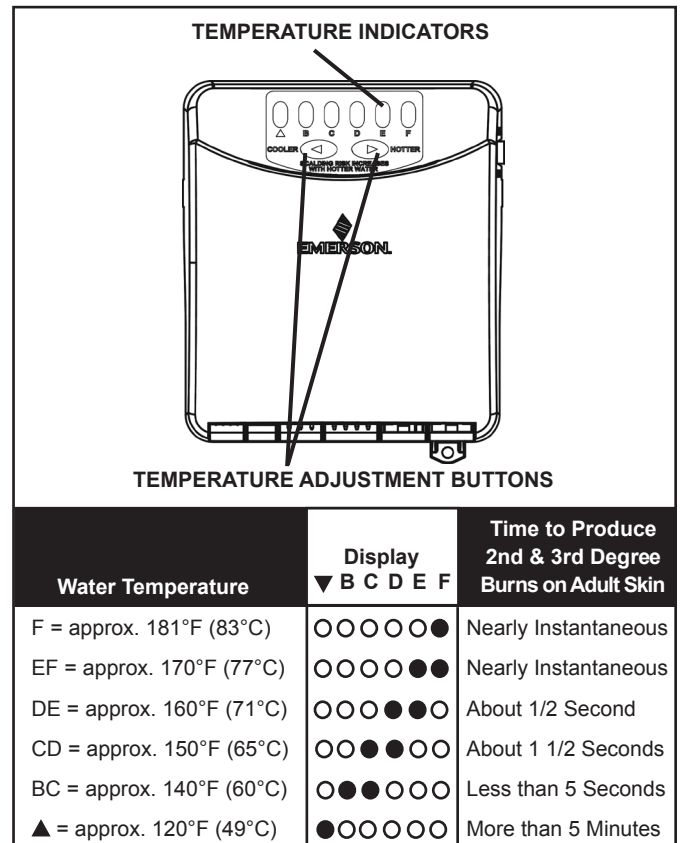

FIGURE 22.
**HOT WATER CAN SCALD:** Water heaters are intended to produce hot water. Water heated to a temperature which will satisfy space heating, clothes washing, dish washing, and other sanitizing needs can scald and permanently injure you upon contact. Some people are more likely to be permanently injured by hot water than others. These include the elderly, children, the infirm, or physically/mentally handicapped. If anyone using hot water from this heater fits into one of these groups or if there is a local code or state law requiring a certain temperature water at the hot water tap, then you must take special precautions. In addition to using the lowest possible temperature setting that satisfies your hot water needs, a means such as a mixing valve, shall be used at the hot water taps used by these people or at the water heater. Mixing valves are available at plumbing supply or hardware stores, see Figure 2. Follow manufacturer's instructions for installation of the valves. Before changing the factory setting on the thermostat, in this manual, see Figure 22.
1. "Wake Up" the temperature indicators by holding down both "COOLER" and "HOTTER" temperature adjustment buttons at the same time for one second, see Figure 22. One or two of the temperature indicators will light up. These indicators will only remain on for 30 seconds if no further buttons are pressed. After 30 seconds the control will go back to "Sleep" mode.